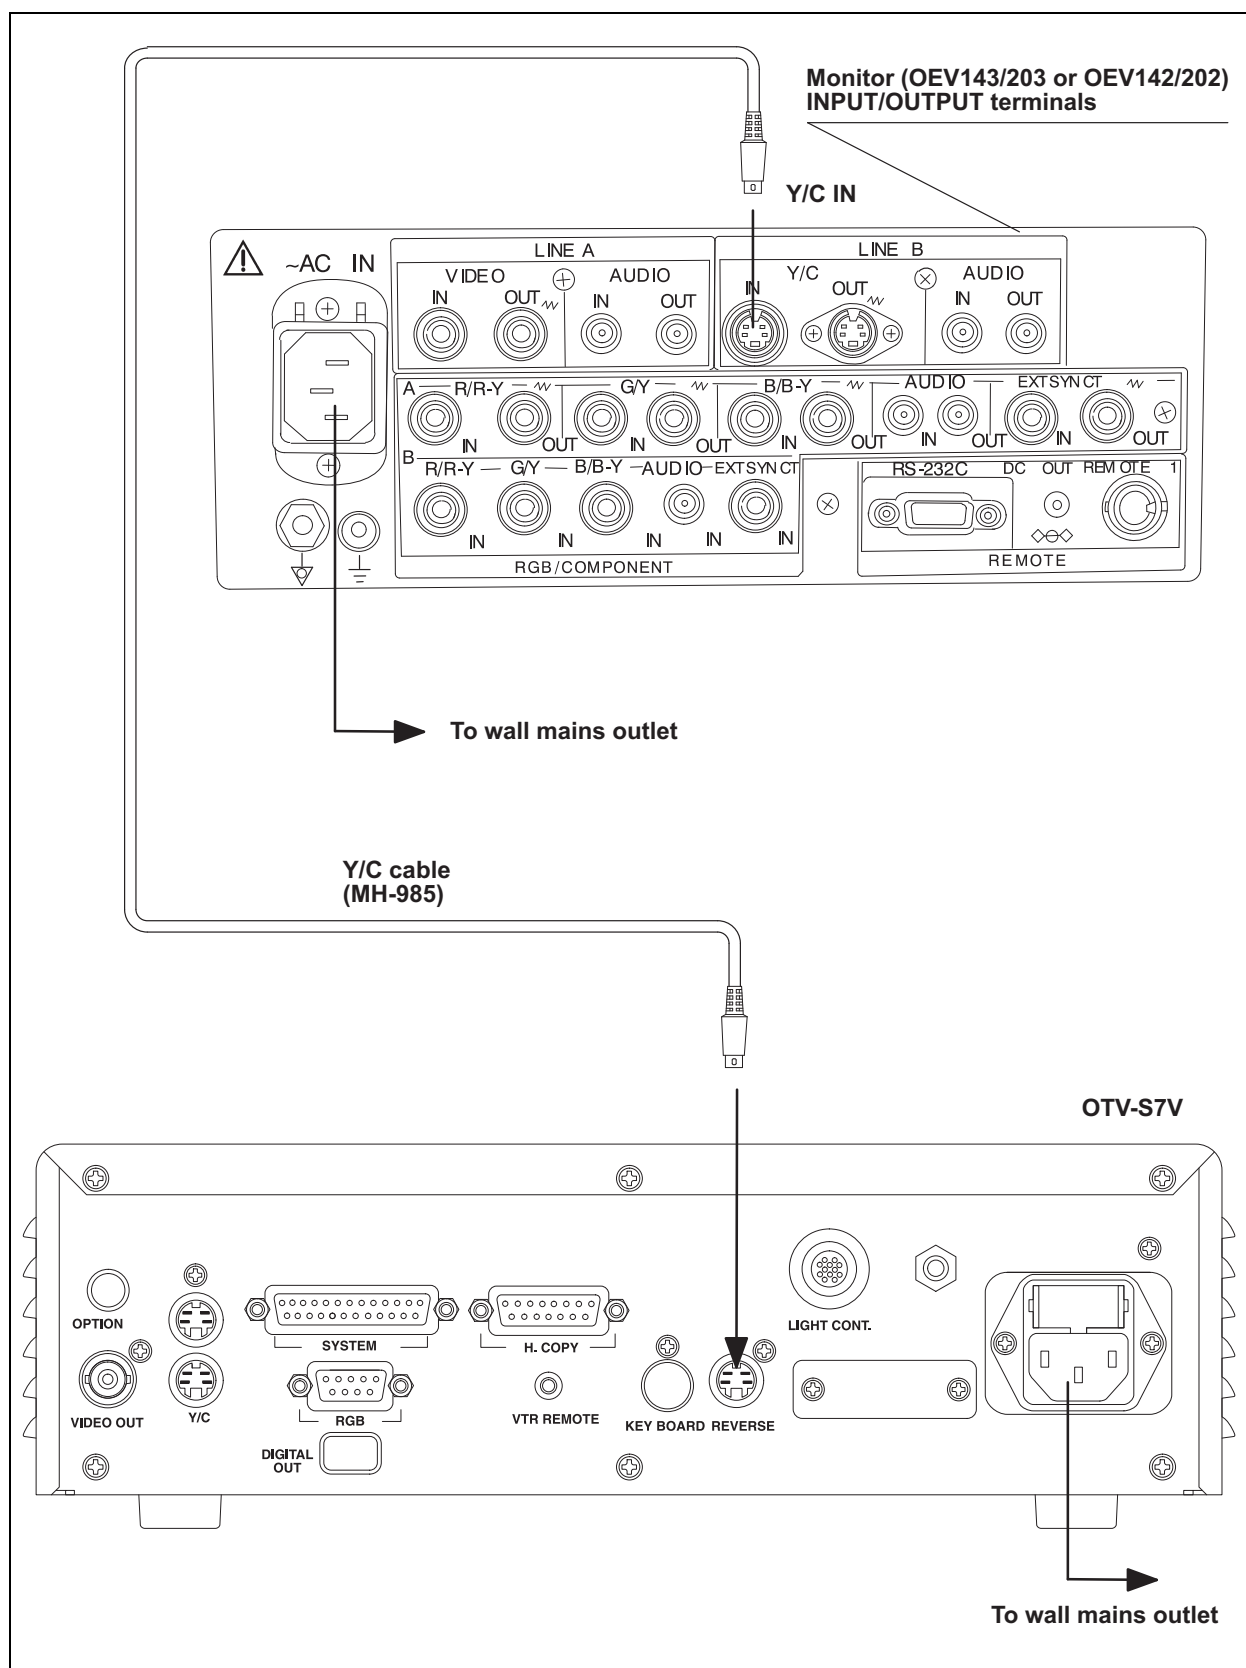

Figure 3.4
2. When using the OEV143/203 or OEV142/202, connect the Y/C cable to the video monitor as shown in Figure 3.4.